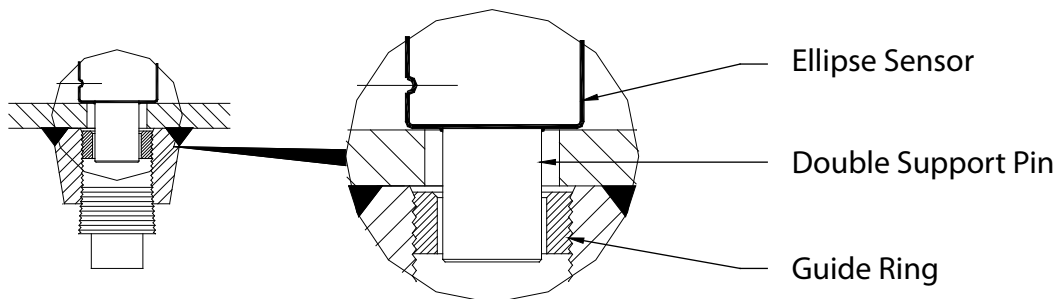

Figure 5: Double Support Pin
3. Install the BHL Ellipse sensor through the two holes. Make sure that the double support pin passes through the guide ring. See *Figure 5*.